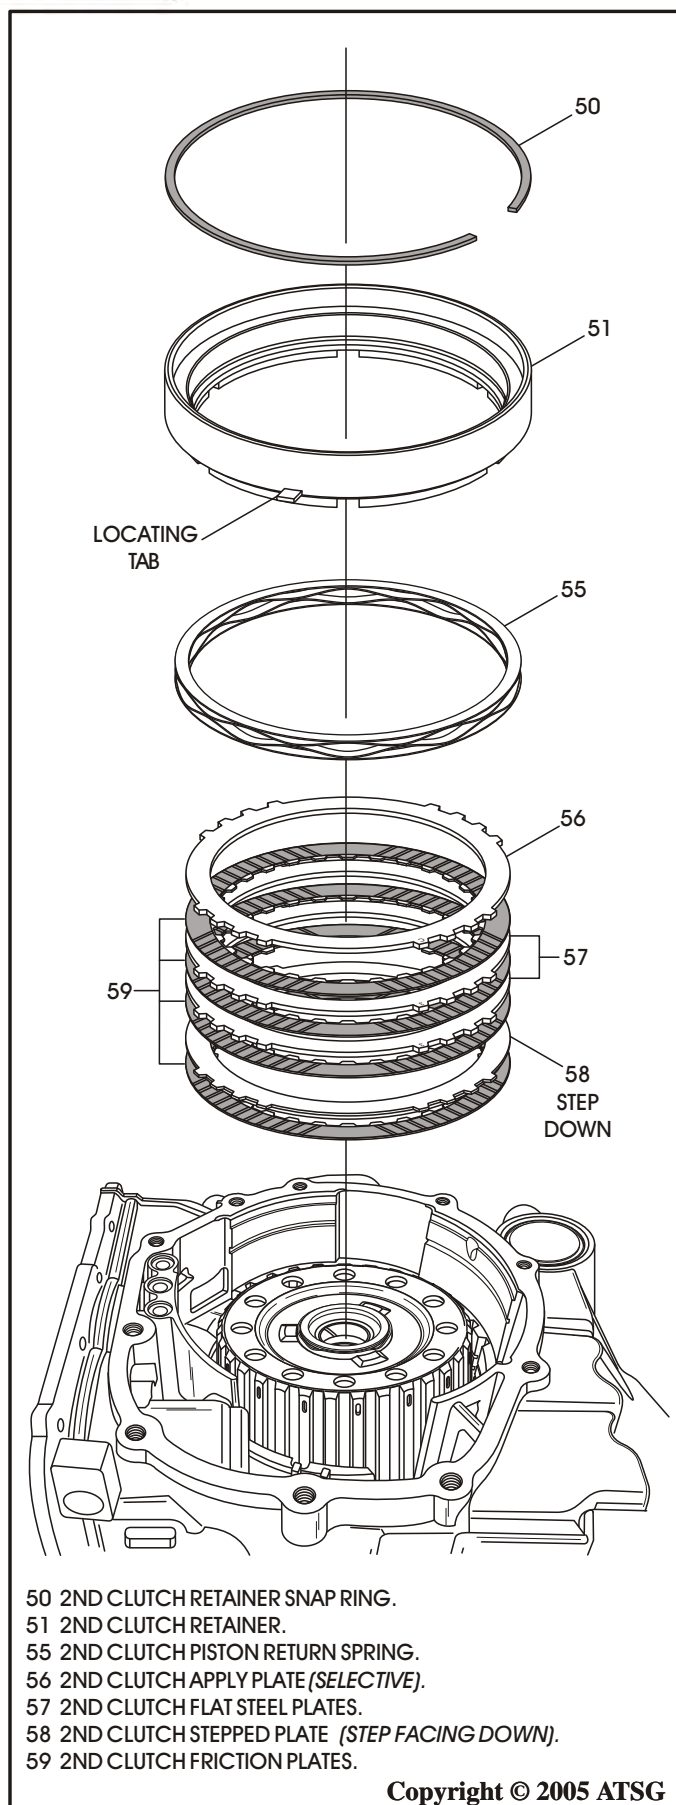

Figure 182
58. Now re-install the 2nd clutch plates beginning with 1 friction plate, as shown in Figure 182.
59. Install the "Stepped" apply plate, as shown in Figure 182, with the *step facing down*.
60. Install the remaining friction and steel plates, as shown in Figure 182.
61. Install the selective apply plate, as shown in Figure 182.
62. Install the 2nd clutch piston return spring, as shown in Figure 182.
63. Install 2nd clutch piston and retainer assembly, as shown in Figure 182, and install snap ring.
Note: *Ensure that locating tab is engaged into the case groove (See Figure 182).*